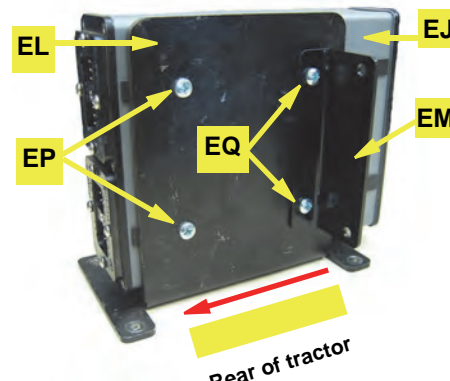

Figure 1c: Installed ECU and controller bracket (viewed from driver's seat side)
- c. Using the shorter hardware **EP** through the rear-most holes in bracket **EL**, attach **EJ** (cable connectors rearward) loosely to the inside face of bracket **EL** (Figure 1c - viewed from driver's seat side).
- d. Using the longer hardware **EQ** through the narrow side of bracket **EM** (wider side forward) and the remaining holes in bracket **EL**, secure **EJ** and **EM** to **EL** (Figure 1c). Tighten **EP** and **EQ**.